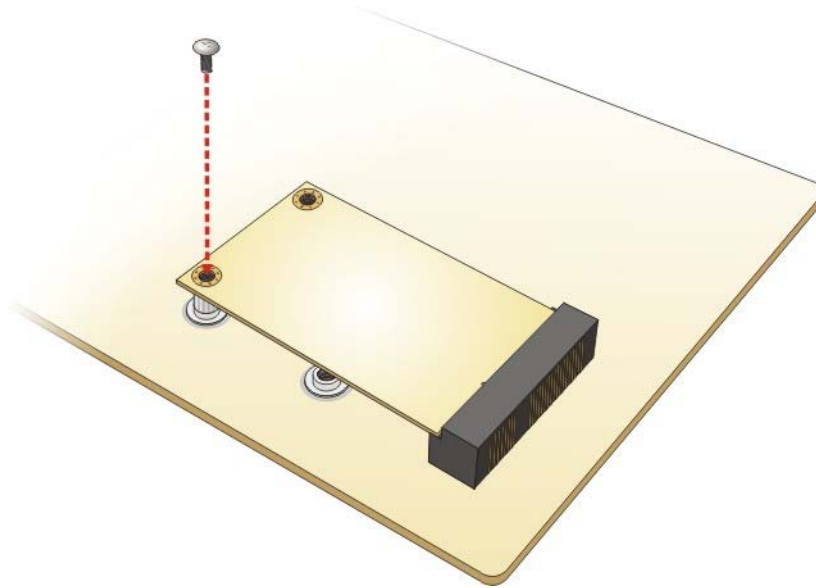

Figure 4-10: Securing the Full-size PCIe Mini Card
Step 4: **Secure the full-size PCIe Mini card.** Secure the full-size PCIe Mini card with the retention screw previously removed (**Figure 4-10**).